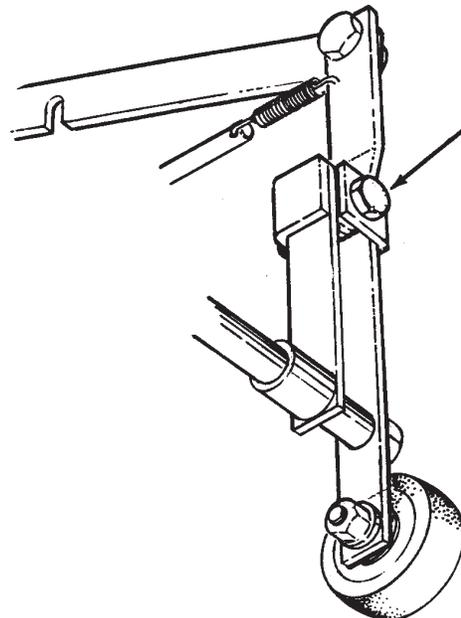

Figure 13
1. Locate the leveling screw. See figure 13.